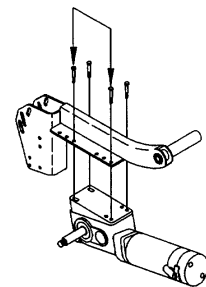

FIGURE 12 - REPOSITIONING MOTOR/GEARBOX
**REPOSITIONING THE MOTOR/GEARBOX (FIGURE 12)**